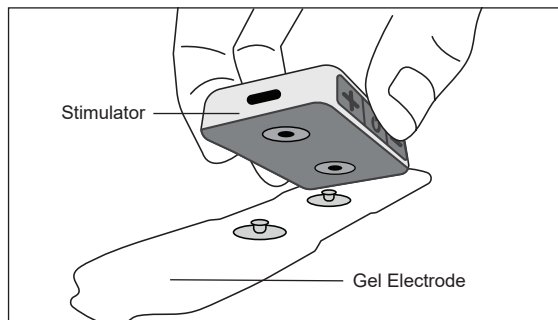

Figure 8-1: Gel Electrode and External Stimulation connection
5. Snap the External Stimulator onto the Gel Electrode. **See Figure 8-1.**